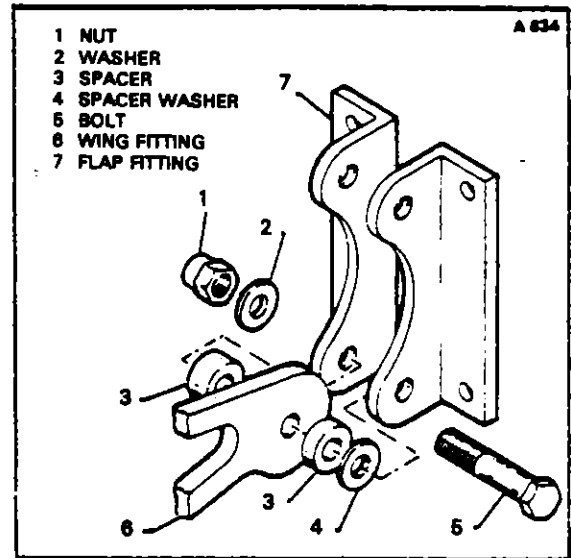

FIGURE 4-4. AILERON BEARING
- a. Position the aileron, lubricate (Refer to Lubrication Chart, Section II) and install the in-board hinge bolt. (Refer to figure 4-4.) Install the outboard bolt. Place the spacer washers to allow for best alignment of hinges. Move the aileron through its full travel to ascertain that there is no binding.